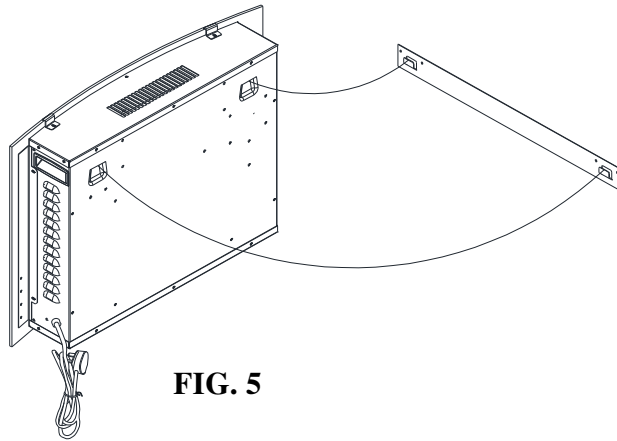

FIG. 5
6. Referring to figure 5, hang heater to hanger.